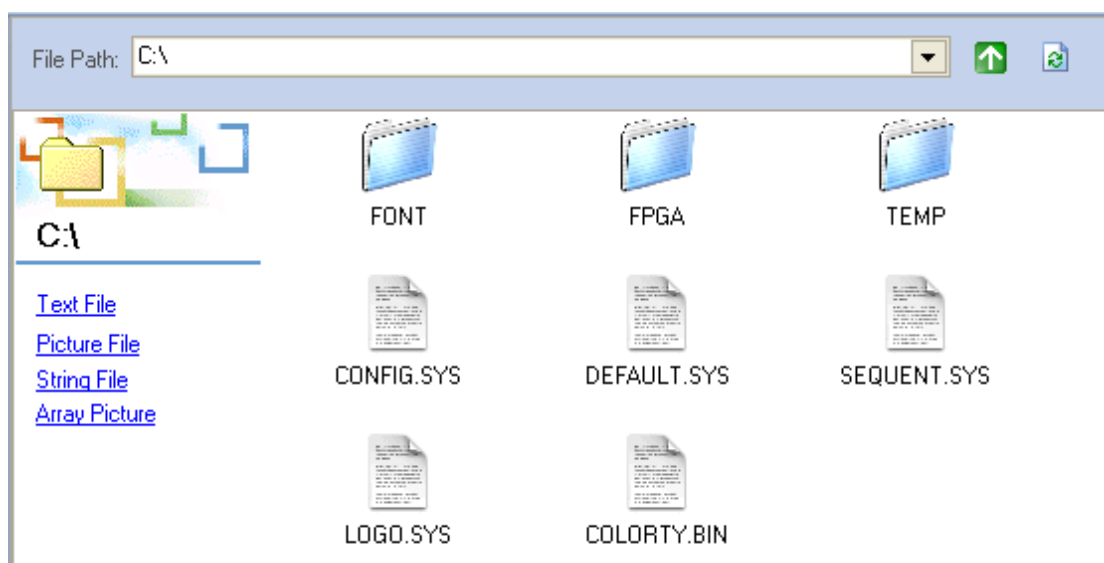

Fig. 6.9 Directory of Disk C
**Disk C:** This system disk includes important system files, such as System Set, FPGA file, Font list file, Play list and so on. The directory of the Disk C can be opened by double clicks, as is shown in Fig 6.9.